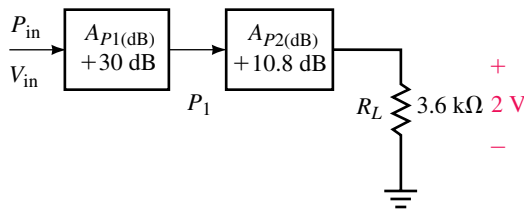

FIGURE 22-47
20. Suppose that the system of Figure 22-47 has an output voltage of 2 V: